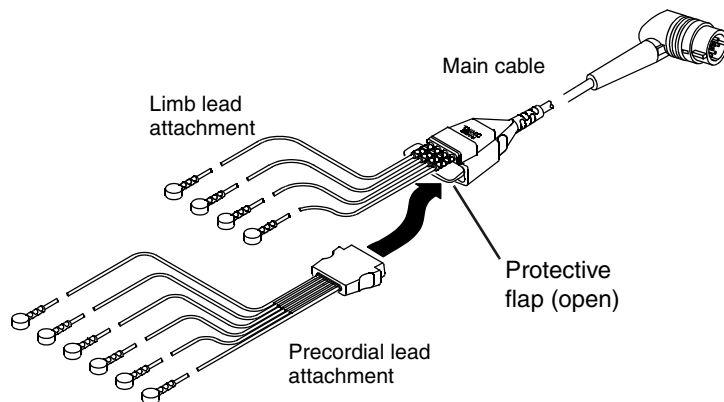

Figure 3-6 12-Lead ECG Cable
- 2 Insert the limb lead and the precordial lead attachments into the main cable as shown in Figure 3-6.